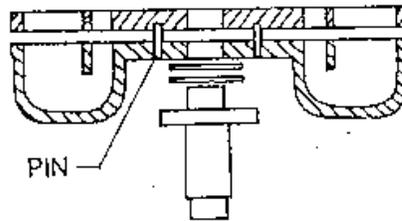

FIGURE 5
13. Install the drive and alignment pins (2) into the tapped holes in the feed bowl. Do not allow the pins to extend below the bottom of the bowl's center plate or they will drag on the main shaft housing. See Figure 5.